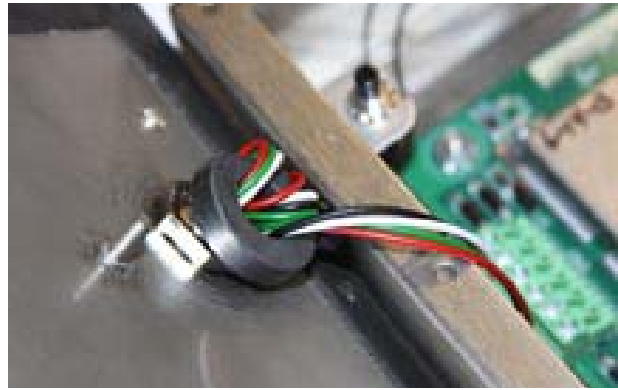

Figure 2-4. Ferrite Core Wire Wrap
10. Thread the load cell cable through the ferrite core, from the parts kit, twice. Leave the ferrite core as close to the backplate as possible. See Figure 2-4.
7. Thread the load cell cable through the ferrite core, from the parts kit, twice. Leave the ferrite core as close to the backplate as possible (see Figure 2-4).
7. Wrap wires through ferrite core two times leaving ferrite as close to the backplate as possible (see Figure 2-4).